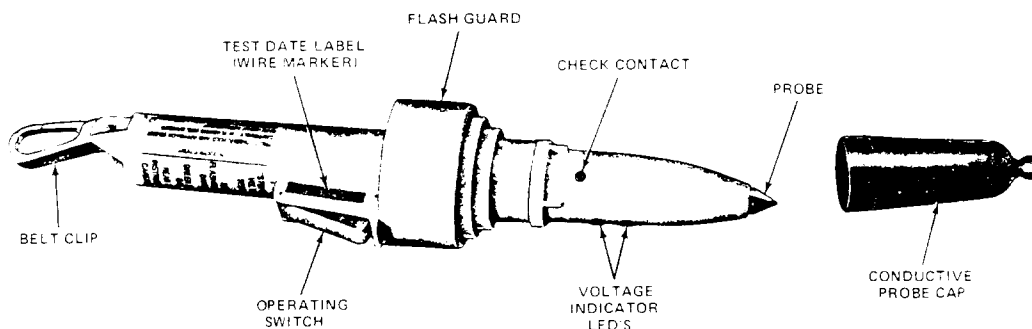
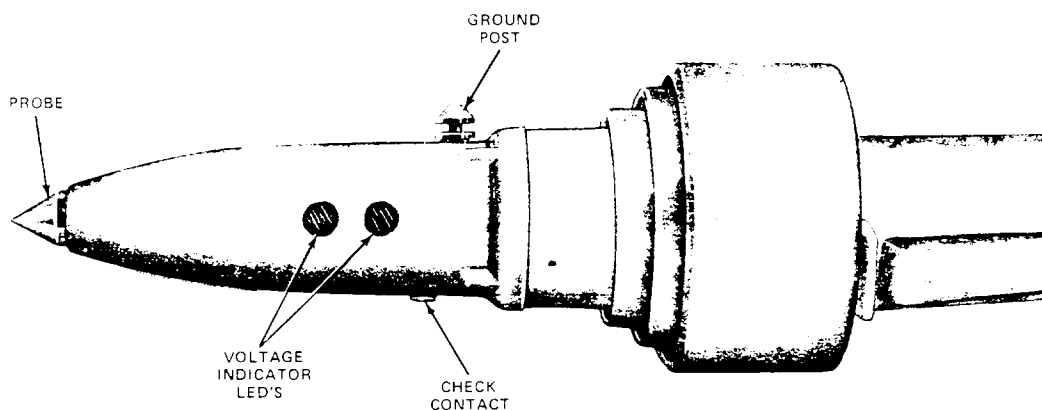

Fig. 1--188A Test Set
Fig. 3--Voltage Indicators
- 1.03 DANGER: Do not touch the energized object. The 188A test set (Fig. 1) is a high impedance voltage detector. It will identify voltages over 50 volts ac and 6 volts dc, regardless of current potential. The upper voltage limits that it is designed to test for are 20,000 volts 60 Hz ac and 2000 volts dc. At frequencies other than 60 Hz, the test set is less sensitive to lower frequencies and more sensitive to higher frequencies. The test set indicates when a potentially hazardous voltage is present by means of a flashing red indicator (LED). It does not indicate the actual voltage. When the test set indicates that a potentially hazardous voltage is present, the technician should notify the appropriate management center immediately (Part 10). The supervisor will determine if the indicated voltage is hazardous.
- 3.01 The 188A test set is a yellow plastic two-piece unit that weighs approximately 1 pound. The front housing contains the carbide probe tip and the light emitting diode (LED) voltage indicators (one green and one red), a ground post, and a check contact (Fig. 3). The rear housing unscrews from the front and contains a belt clip and operating switch. A colored wire marker is applied to the left gusset of the operating switch. The date that the test set was last tested with the 1188A test set is written on the wire marker (Fig. 1). The flashguard is an integral part of the rear housing. Required checks before use and instructions for use are printed on a label and affixed to the handle portion of the rear housing.
- 3.04 Conductive Probe Cap: The conductive probe cap (Fig. 1) provides protection from the sharp tip of the probe. When placed on the handle (clip end) of the 188A test set, it provides the attachment knob for the W1BU ground cord and a conductive surface for the hand of the user.